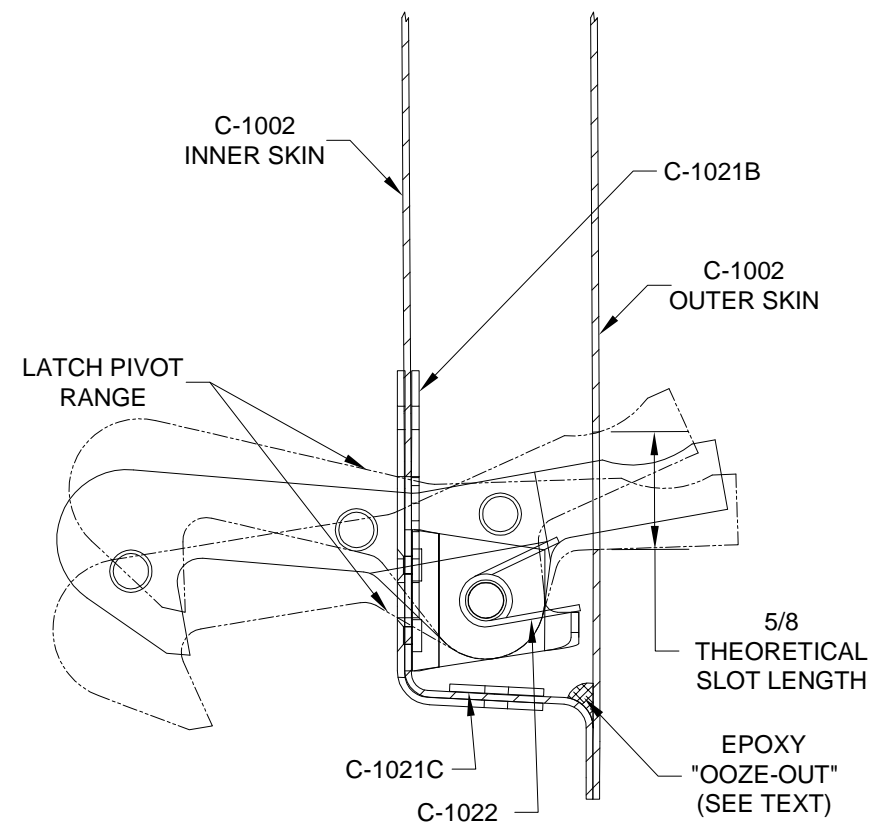

FIGURE 2:
Step 2: Test-fit the C-1021C Doubler Plate on the inside of the C-1002-L Door. Be sure that any thickened epoxy mixture that may have oozed-out when the door inner and outer shells were mated will not prevent the doubler plate from resting flat inside the door. See Figure 2.
Step 3: Cleco the C-1021B and C-1021C Doubler Plates inside the cavity of the C-1002 Door. See Figure 2.